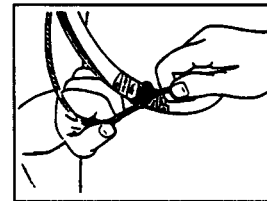

Figure 10
3. Tie pieces of string to the taped portions of the V-ring seal approximately 1 inch from cut (Figure 10).